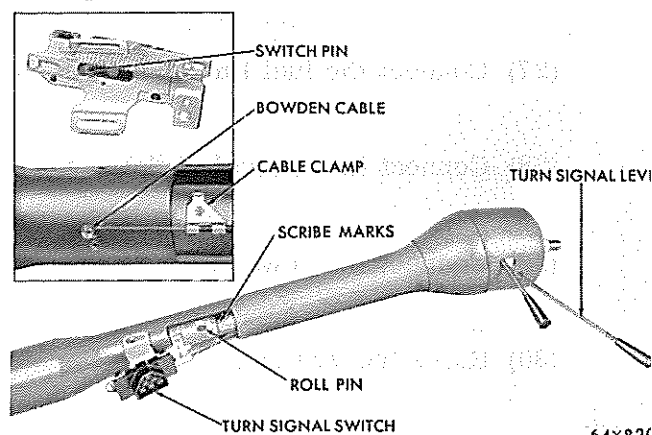
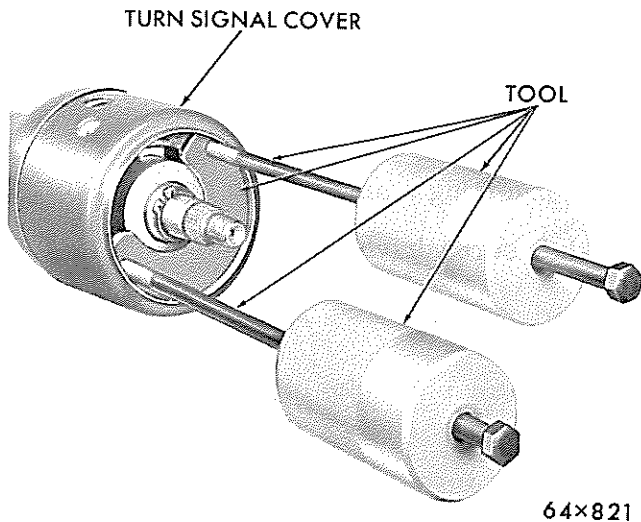

Fig. 20 - Tilt Column Assembly and Turn Signal
Fig. 21 - Removing the Turn Signal Cover
- (1) Disconnect the negative battery cable at the battery post.
- (2) Compress and turn the horn button 1/4 turn counterclockwise to release the horn button from the retainer.
- (3) Remove the three screws and insulators attaching the horn ring and horn blowing switch to the steering column and remove the horn ring and switch.
- (4) Place the front wheels in the straight ahead position and steering gear on high point, loosen the steering wheel nut several turns and install the steering wheel puller Tool C-3428A to remove the steering wheel.
- (5) Remove the two bolts attaching the steering jacket tube clamp at the instrument panel and remove the clamp.
- (6) Disconnect the directional switch multiple plug and horn wire at the jacket tube just below the instrument panel.
- (7) Remove the screws attaching the floor plate seal to the floor panel and slide the seal up on the jacket tube.
- (8) Scribe alignment marks on both the upper and lower shafts to ensure proper reassembly and remove the roll pin attaching the steering lower column shaft to the column upper shaft (Fig. 20).
- (9) Loosen the jacket tube clamp bolt and clamp at the steering gear housing.
- (10) Pry between the jacket tube clamp and the steering gear housing to loosen the jacket tube from the column jacket support rubber insulator boot.
- (11) Slide the jacket tube and adjustable wheel unit rearward and off the lower steering tube.
- (4) Make sure alignment marks scribed on the upper and lower shafts are properly aligned, then install the roll pin attaching the upper and lower shafts (Fig. 20).
- (5) Position the floor plate seal on the floor panel and install the attaching screws.
- (6) Connect the directional signal wires and the horn wire at the connectors.
- (7) Install the steering wheel and steering wheel nut to 24 foot-pounds torque.
- (8) Install the horn blowing switch, horn ring, the insulators and attaching screws.
- (9) Compress and turn the horn button 1/4 turn clockwise to lock the horn button on the retainer.
(10) Connect the battery cable to the battery terminal post.
- (1) Remove the two screws attaching the turn signal switch to the jacket column, turn the switch over and remove the cable clamp attaching screw and the coiled end of the Bowden wire from the switch pin. (Fig. 20).
- (2) Place the adjustable wheel in the center (straight) position and remove the turn signal switch lever and the release lever.
- (3) With Tool-SP-3426A weights assembled on puller Tool C-3954, engage the tool under the inside flange of the turn signal cover (Fig. 21) and pull the turn signal cover evenly from the column assembly.